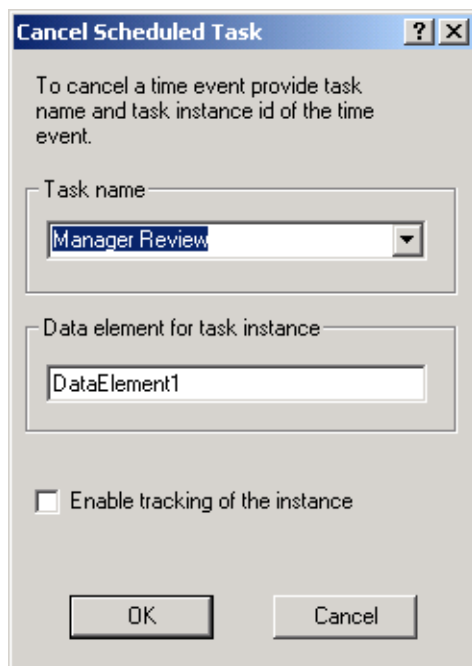

Figure 31-16. Cancel Scheduled Task dialog with Task name and a data element containing task instance ID.
- 3 Type the name of the data element that contains the task instance ID. This is the data element that you specified in the Create Scheduled Task (See Figure 31-16, below).